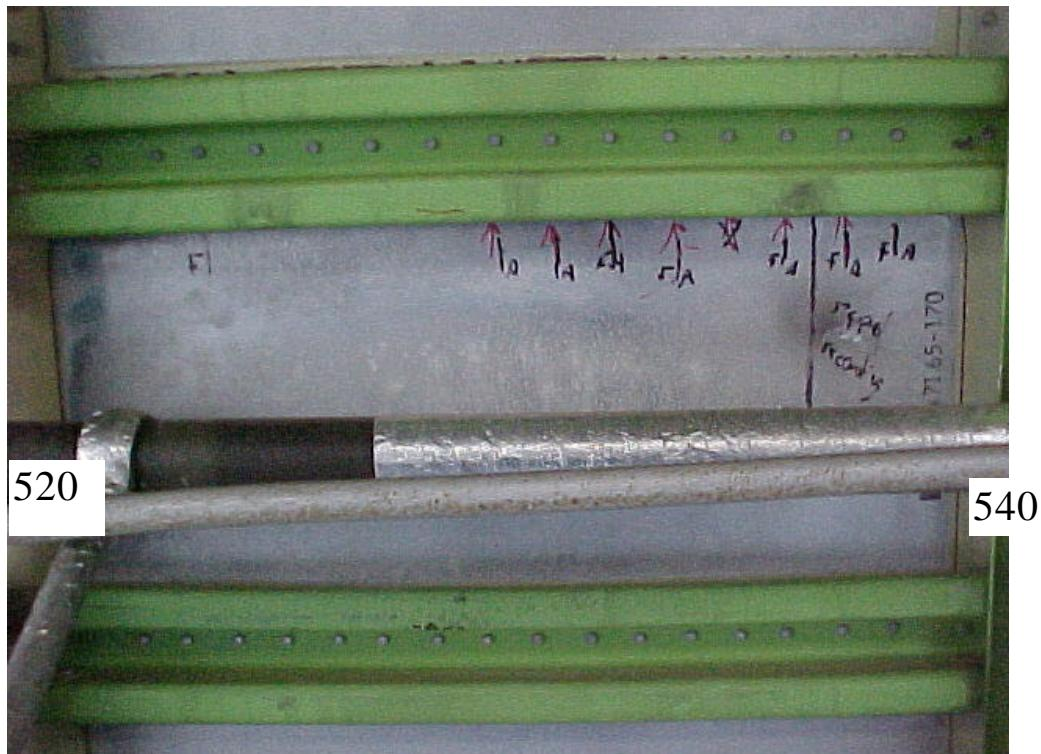

Figure C-5. Photograph of indication locations found during DVI and MFEC inspections. Stringer 4R, BS 520 to BS 540.
- FIGURE C-5 Photograph of indication locations found during DVI and MFEC inspections. Stringer 4R, BS 520 to BS 540..... C-5